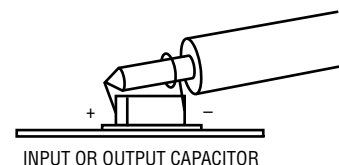

Figure 2. Proper Scope Probe Placement for Measuring Input or Output Ripple
5. To measure the input and output ripple, please refer to Figure 2 for the proper set-up.